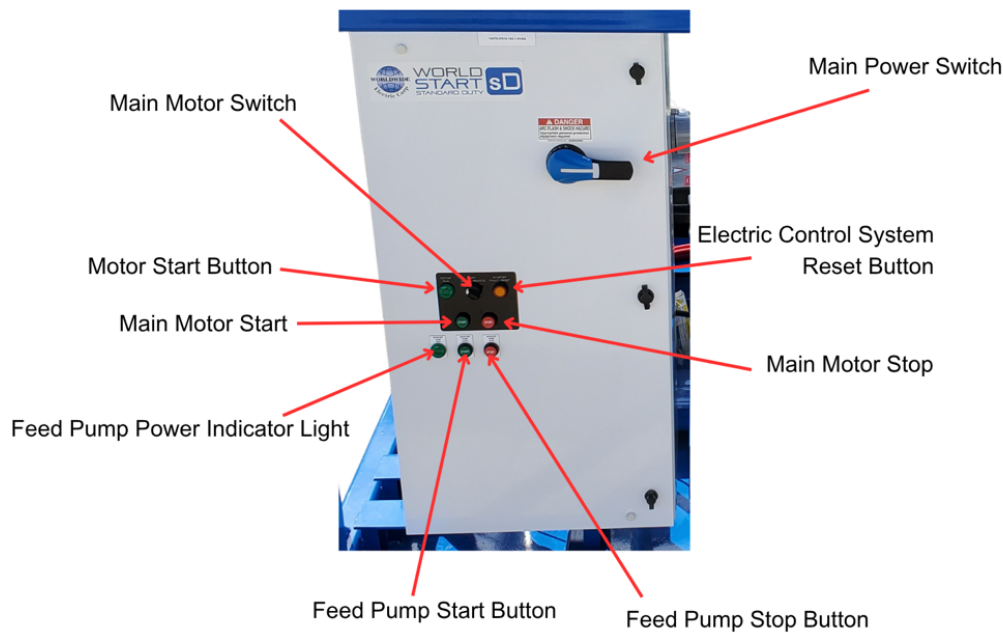

Figure 2.2 – CaviBlaster 2570-E Control Panel
10. Connect the bypass hose (See ***Figure 2.2***).
11. Connect the pressure hose (See ***Figure 2.2***).
Attention to priming the system is necessary. The feed water suction hose inlet connection is located on the water connection panel (See **Figure 2.2**). The (clear) suction hose should be straight and at a slight downward angle from the inlet connection on the water connection panel, with no “humps” in the hose so that trapping of air pockets and creating an air lock is minimized. During the priming cycle the suction hose should always remain below the height of the inlet connection unless connecting with a positive pressure water source.
2. Ensure the E-Stop button is pushed "IN" so that the power supply has been disconnected. (See **Figure 2.2**).
3. Connect the cam-lock socket on the 1-1/2" clear PVC feed hose to the water inlet connection on the control panel (See **Figure 2.2**). Place the other end of the hose in the water supply.
2. Ensure the E-Stop button is pushed "IN" so that the power supply has been disconnected (See **Figure 2.2**).
4. Connect a 1-1/2" cam-lock socket on the water supply hose to the water inlet connection on the control panel (See **Figure 2.2**). Confirm system is primed.
1. Locate the water supply tank so that the outlet of the supply tank is higher than the water inlet on the control panel (See **Figures 2.2 and 4.3**).
3. Ensure the E-Stop button is pushed "IN" so that the power supply has been disconnected (See **Figure 2.2**).